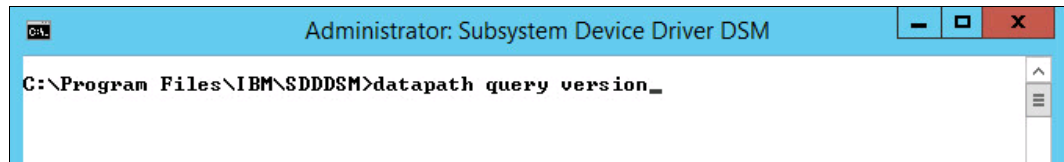

Figure 5-8 Datapath query version
5. A command prompt opens. Run **datapath query version** to determine the version that is installed (see Figure 5-8).